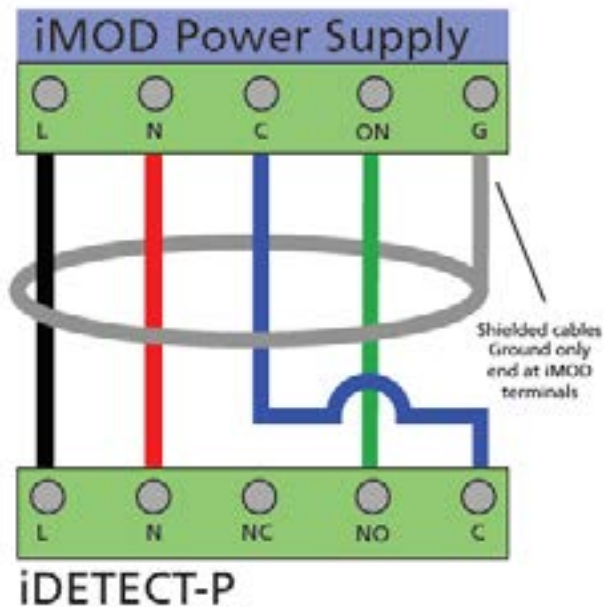

Figure 4
5. Connect the line (L), neutral (N), and common wires (COM or C). See FIGURE 4.
6. Connect the normal open (NO) contact on the GPS-iDETECT-P to the "ON" contact on the GPS-iMOD power supply terminal block (see FIGURE 4).
7. Ground 18/4 SHIELD to the ground contact (G) on the "GPS-iDetect-P" terminal (ref. FIGURE 4).